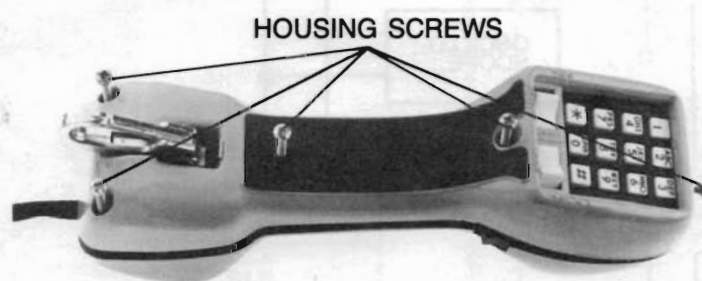

Fig. 9 - Location of Housing Screws
- (1) Remove the five screws that hold the front and rear housing together (see Figure 9).